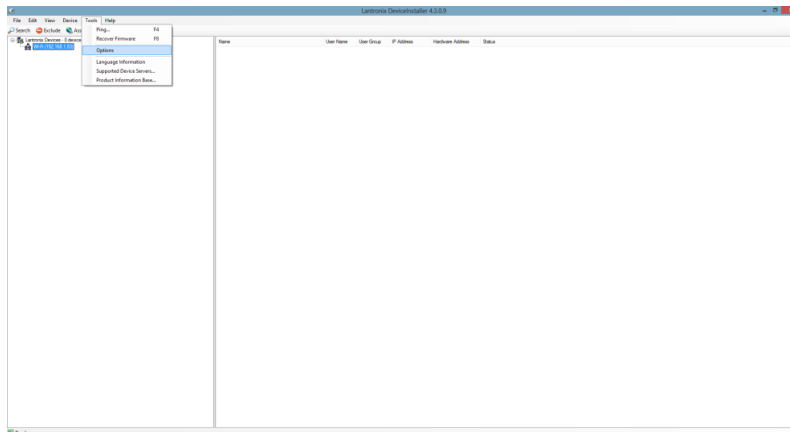

Fig 5.4.1
- 5.4 In File menu, click “Tool>Option” (as shown in Fig 5.4.1) to open the “Option” page.